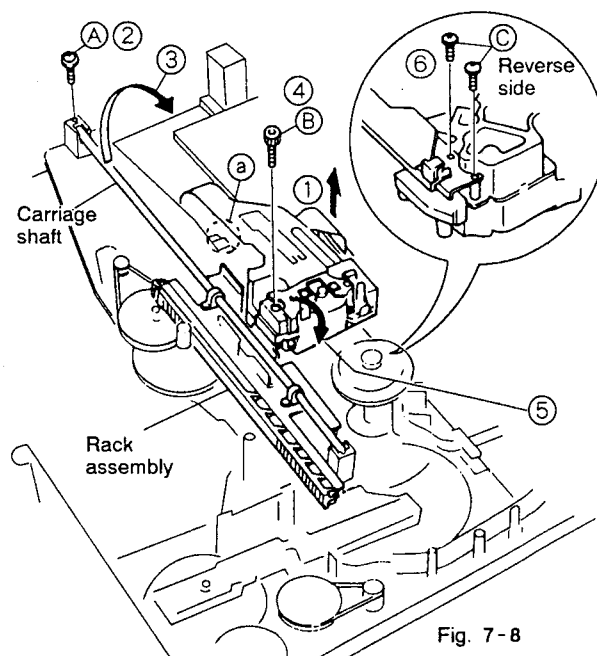

Fig. 7-8
7.5 REMOVING THE PICKUP ASSEMBLY (Fig 7-8)
- ① Remove the flexible cable from the connector and also remove the flexible cable installed at section (a).
- ② Remove a screw (A) holding the carriage shaft.
- ③ Raise the shaft in the direction of the arrow to remove the rack assembly.
- ④ Remove a hexagonal screw (B) and lift up the pickup assembly lightly and turn the pickup assembly in the direction of arrow (5).
- ⑤ Remove two screws (C) on the back of the pickup assembly.